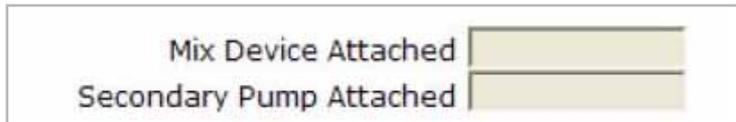

Figure 2.12-4: Snow Melt Mix and Secondary Pump Settings
- Click on a **Snow Melt Zone** button. See **Figure 2.12-4** for an enlarged view of the Mix Device Attached and Secondary Pump Attached fields on the Snow Melt Zone screen.